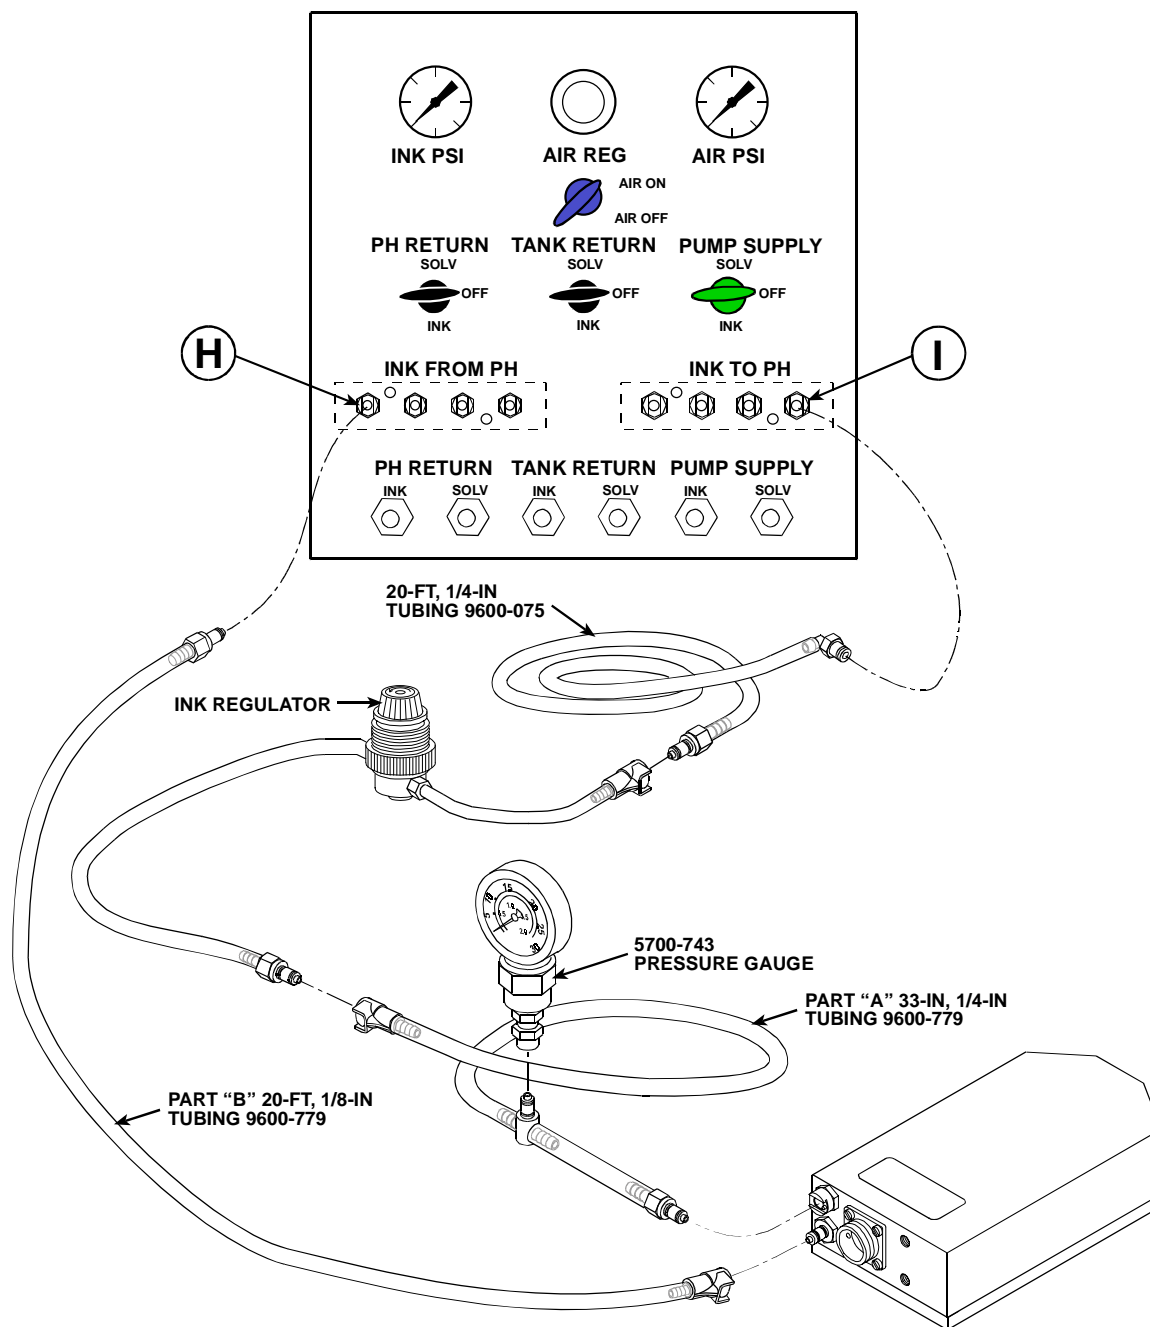

Figure 19 Final Ink Tubing Assembly
NOTE: You may connect as many as four INK TO PH tubing assemblies, one for each printhead, to the INK TO PH ports (I) located on the front panel. Connect tubing for printhead number one to the far right quick disconnect (*Fig. 19*) on the front panel. Connect successive printheads from right to left.
19. Connect the male fitting of Part “A” 9600-779 tubing assembly to the female fitting on the back panel of the printhead (Fig. 19 or 21).
20. Connect the female fitting from Part “B” 9600-779 tubing assembly to the male fitting of the printhead (Fig. 19 or 21).